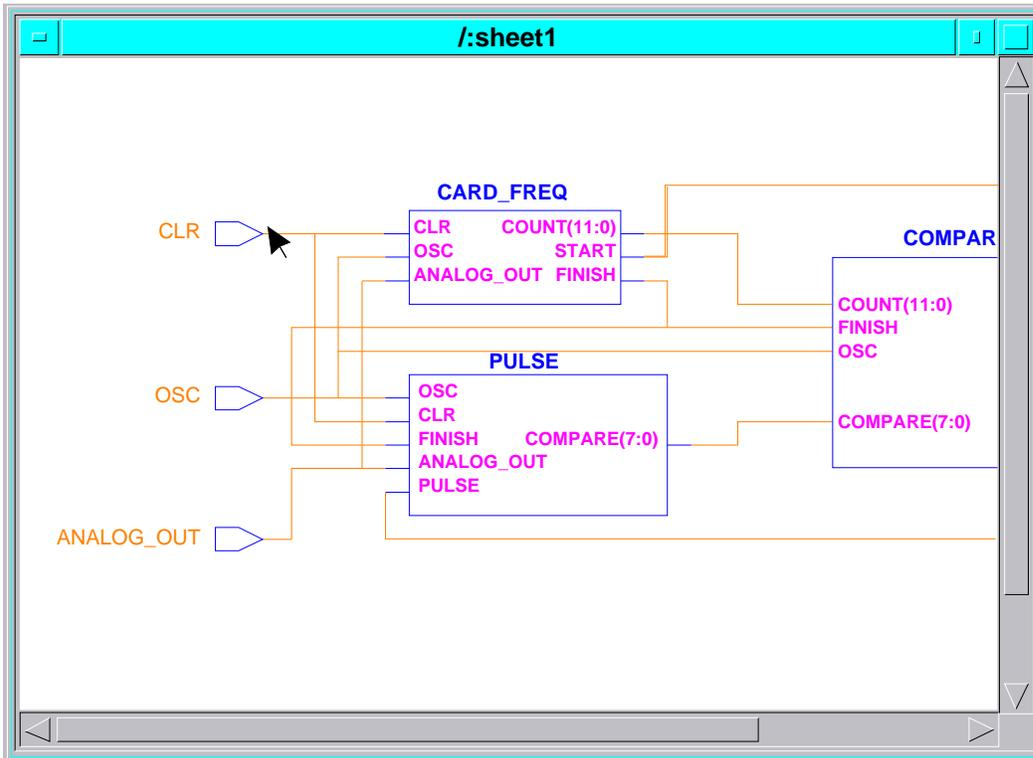

Figure 3-3. Selecting A Signal
- c. Select the CLR signal by positioning the pointer over the CLR net, as shown in Figure 3-3, and clicking the Select mouse button.